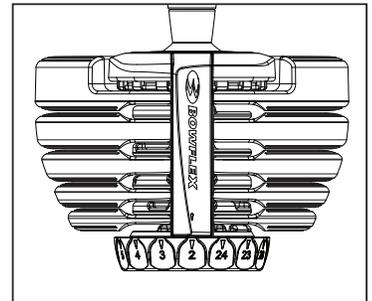

Figure 1
3. The weight increments range from 2 kg to 24 kg (5 to 52.5 lbs) on both adjustment knobs. To properly select a given weight (9 kg [20 lbs] for example), rotate both adjustment knobs until that number (9) is aligned with the arrow located on the outward edge of the Bowflex™ nameplate (Fig.1).